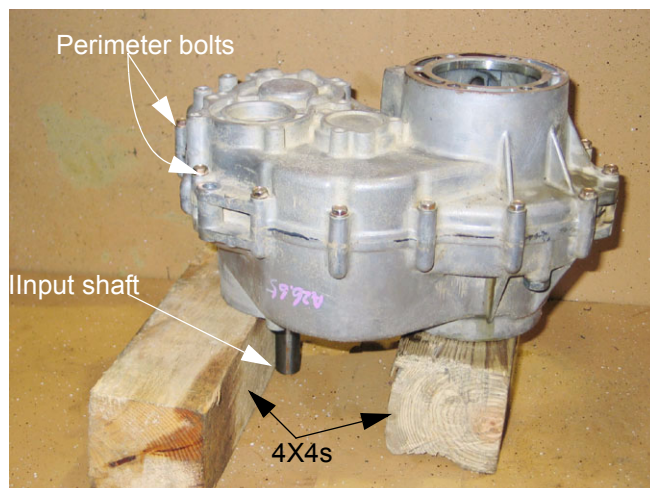

Figure 9.28
- 9.28. Remove the 16 perimeter bolts using a 10 mm wrench. See Figure 9.28.